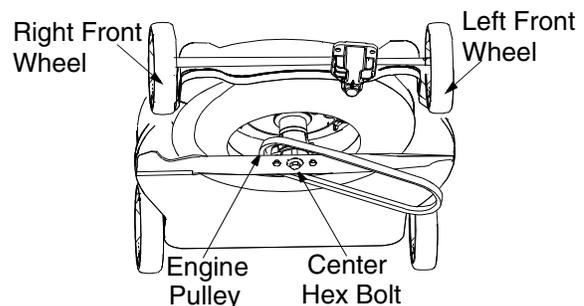

Figure 22
- Remove the belt from the engine pulley and around the blade. See Figure 22.